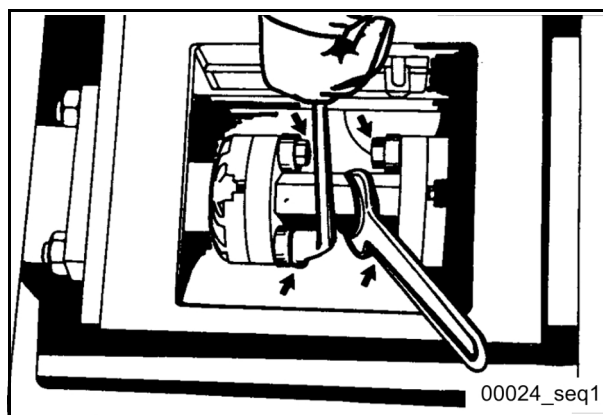

Fig. 342 Piston change
- Make sure the fastening screws are tight (**Fig. 342**).